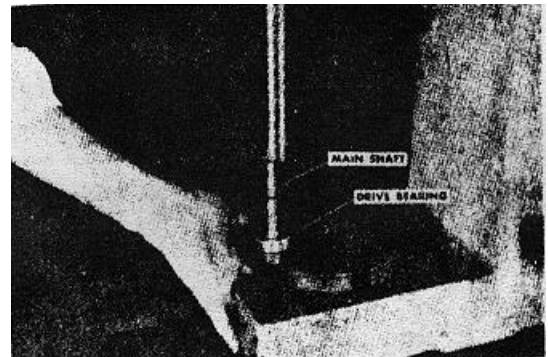

Figure 4-33. Pressing off the drive bearing
8. Press the drive bearing from the shaft. Fig. 4-33.